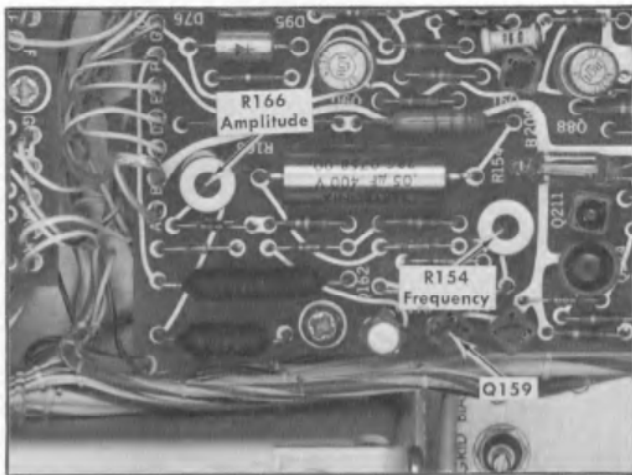
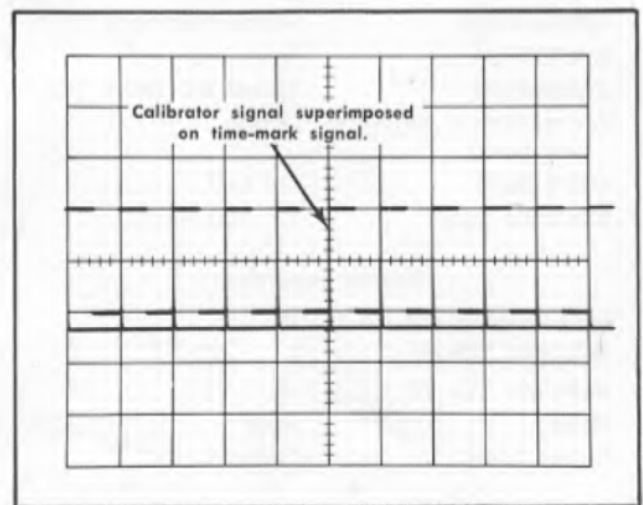

Fig. 5-16. Location of Calibrator controls.
Fig. 5-17. Typical CRT display showing correct calibrator repetition rate.
c. **ADJUST**—R166, Amplitude (Fig. 5-16) for a meter reading of exactly +40 volts.
d. Remove Q159 (Fig. 5-16) and check the remaining calibrator voltages as listed in Table 5-2. Connect a 50-ohm termination to the CAL OUT connector when checking the 0.2 V, 20 mV and 2 mV positions of the CALIBRATOR switch.
**CHECK**—One cycle of calibrator waveform for each marker (see Fig. 5-17). The error in 10 major divisions must be  $\leq 0.5$  minor divisions (the positive transition of the square wave at the right hand edge of the graticule must be no more than 0.5 minor divisions (1 mm) from the positive tran-
- ADJUST—R154, Frequency (Fig. 5-16), for one cycle of calibrator waveform for each marker. See Fig. 5-17. (Since the sweep was calibrated in step f, the display should also be one cycle of calibrator waveform for each major division).